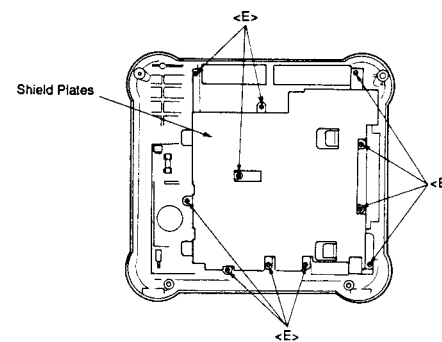
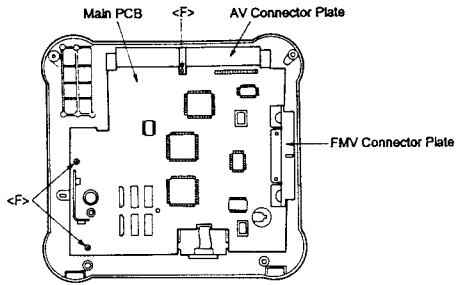

Figure 8
Figure 9
(3) Remove all eleven screws <E> (2.6 x 8 mm) as shown in Figure 8.
(4) Carefully raise shield plate.
- (5) After removing the top case, the CD-ROM drive and the power transformer, remove three screws <F> (2.6 x 8 mm), then remove the AV connector plate and the FMV-contractor plate as shown in Figure 9.